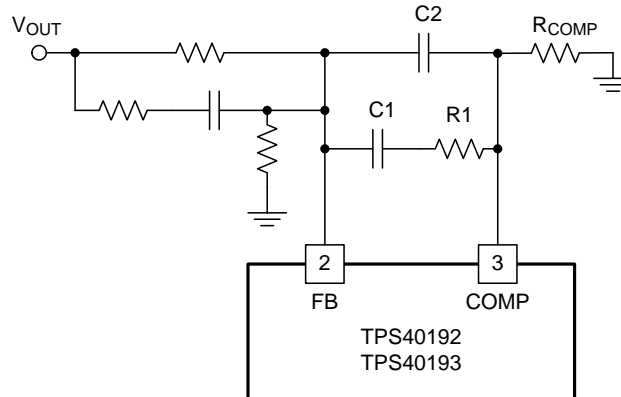

Figure 14. Short Circuit Threshold Feedback Network
- R1 and C1 are the values of the components in Figure 14